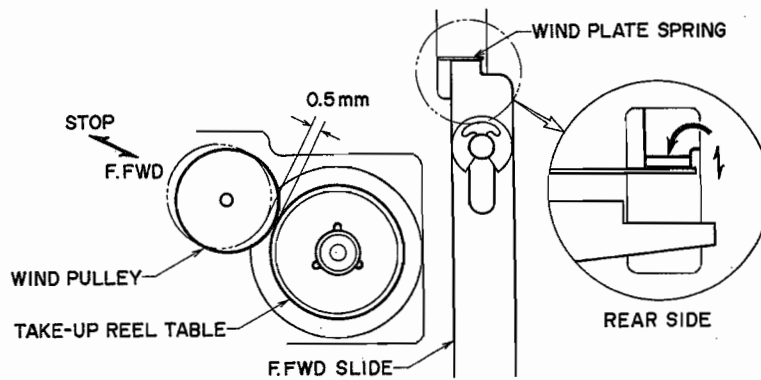

Fig. 13
4. F.FWD SLIDE ADJUSTMENT (See Fig. 13)